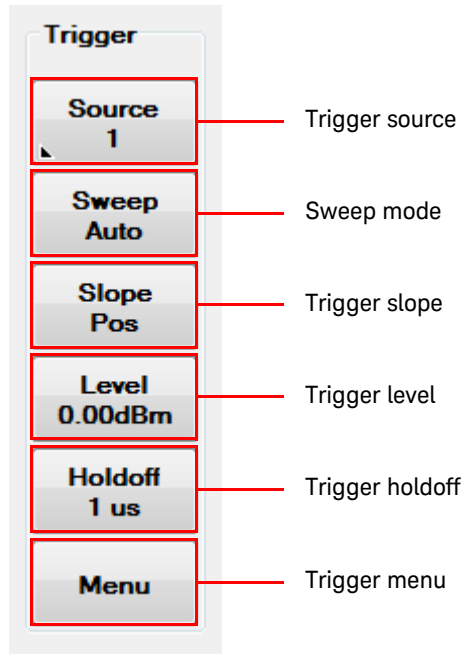

Figure 2-41 Trigger menu on the graphical interface
- 1 To configure the trigger settings, select the individual buttons on the Trigger menu to toggle between selections or access the menu dialog as shown in Figure 2-41.